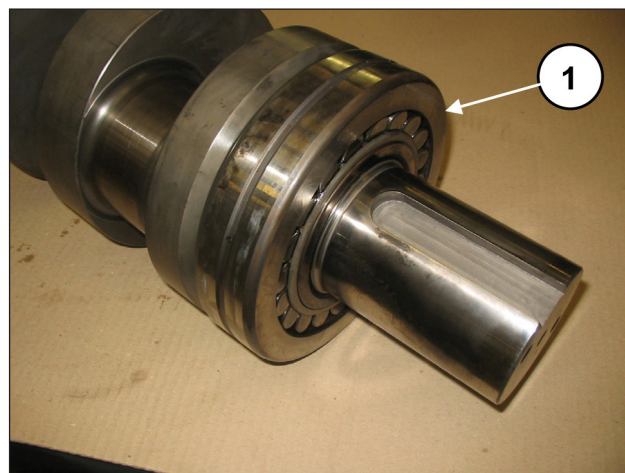
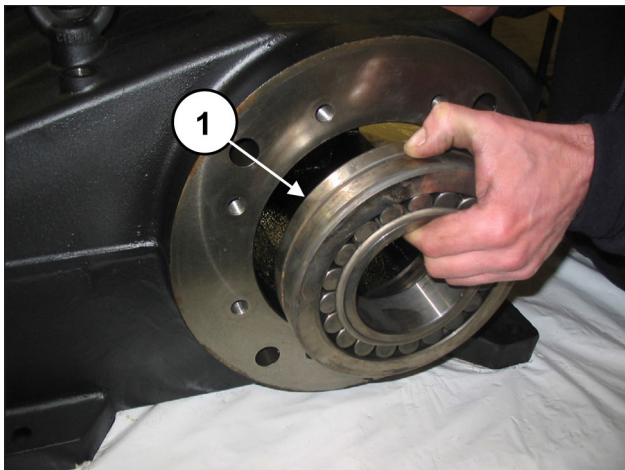

Fig. 42
Fig. 43
Pre-assemble the bearing, PTO side, on the shaft to the end stroke (pos. ①, Fig. 42) and mount the bearing on the opposite side on the casing (pos. ①, Fig. 43).
The bearing in Fig. 43 has a tapered internal ring. Check that the taper goes from the outside inwards to allow inserting the bush.